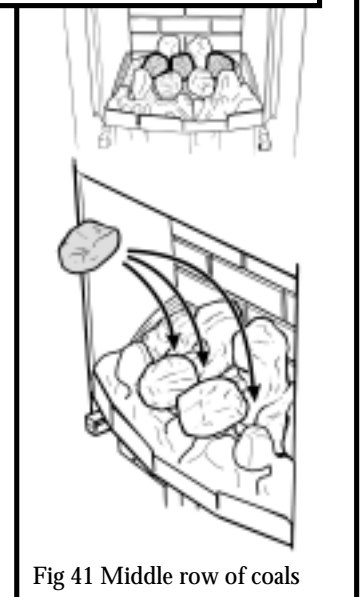

Fig. 41 Middle row of coals
12.5.2 Place the three remaining coals behind and approximately midway between each of the coals in the front row (See figure 41).